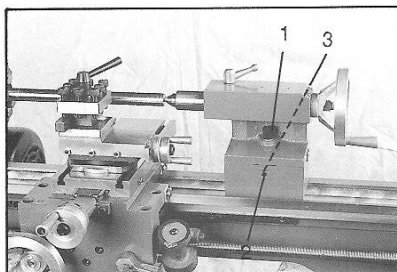

Fig 15
To offset the tailstock, loosen the locking screw (1, Fig 15), loosen the front adjusting screw (2) and take up the same amount on the rear adjusting screw.